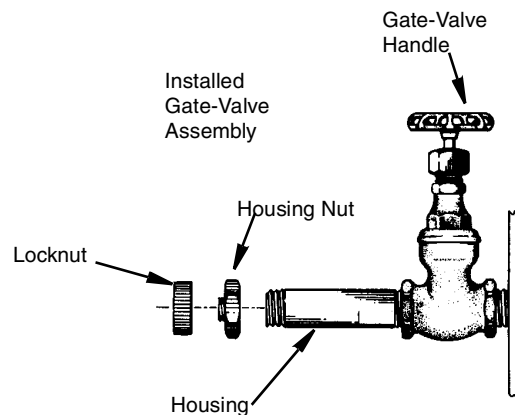

Figure 7. Disassembly of Locknut and Housing Nut
1. Disassemble the locknut and the housing nut from the installed gate-valve assembly housing (see Figure 7).